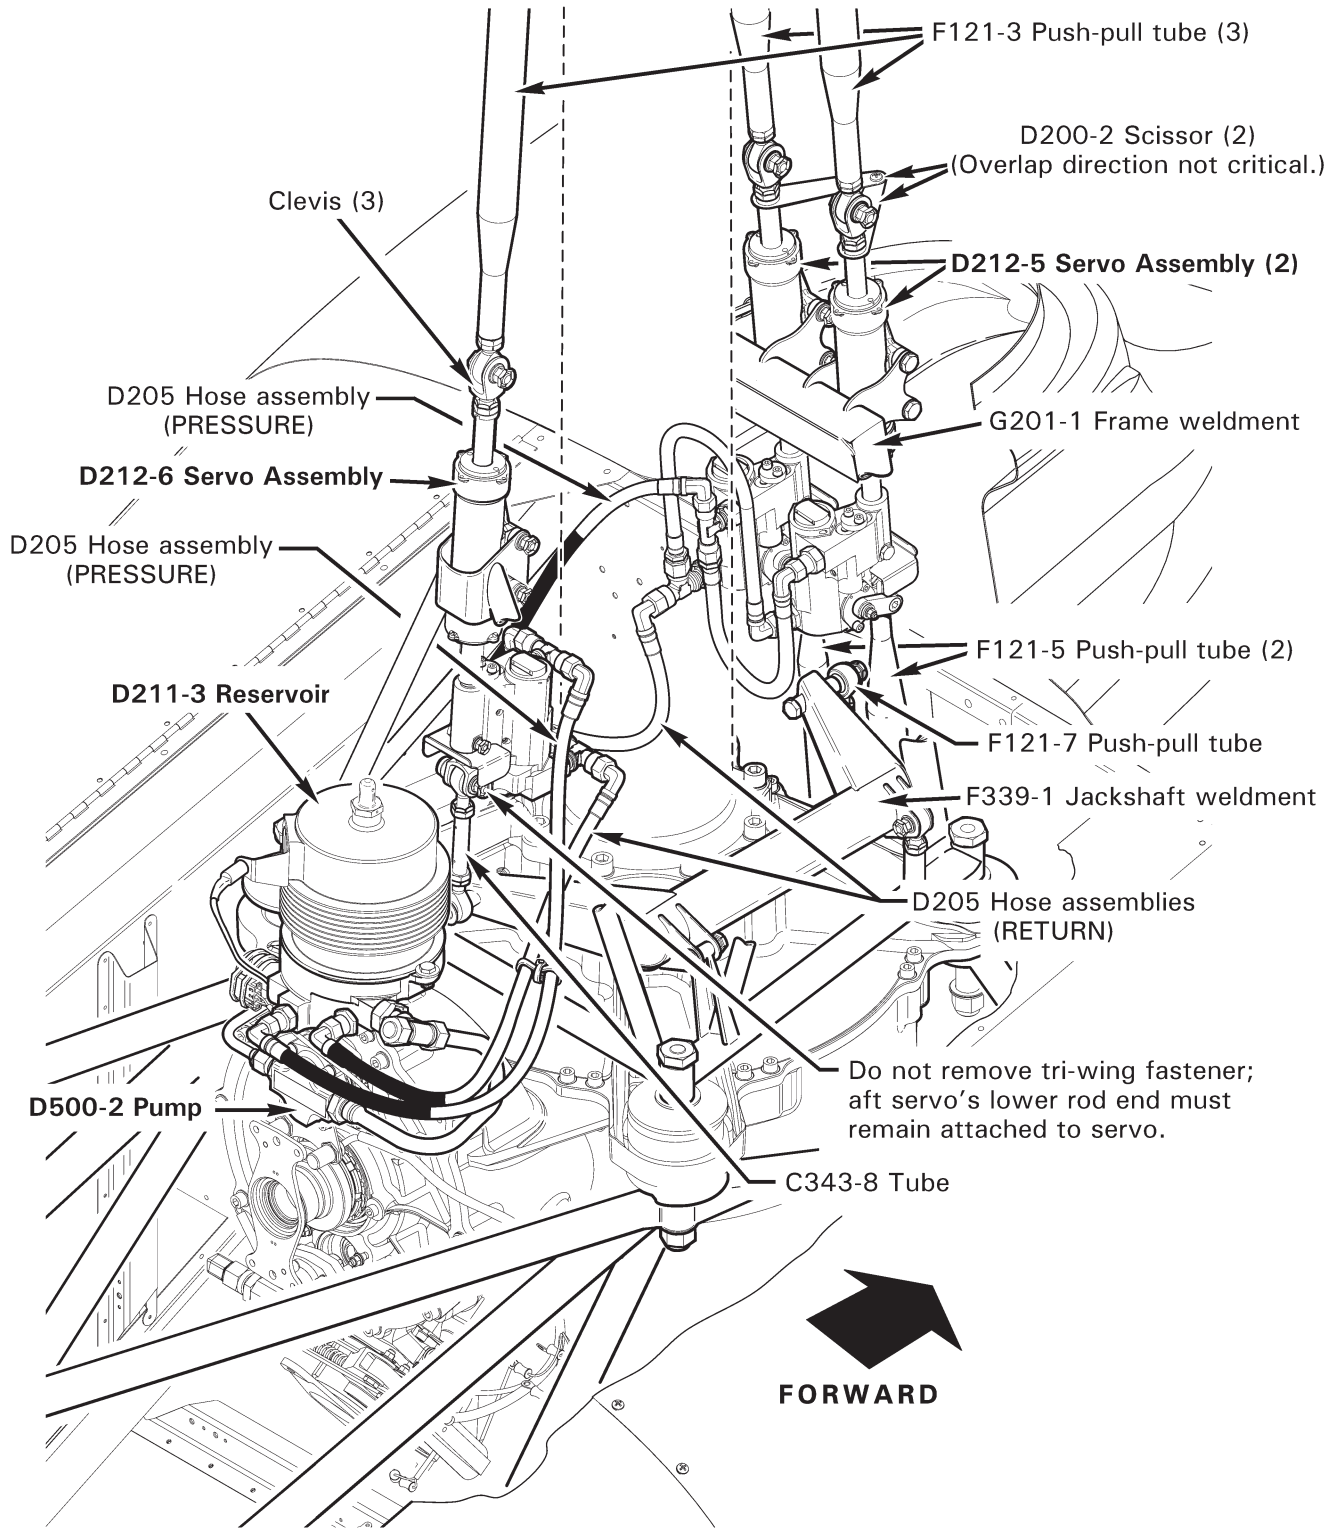

FIGURE 29-1 HYDRAULIC FLIGHT CONTROL SYSTEM
2. Refer to Figures 29-1 and 29-3. Perform the following measurements on all D212 hydraulic servo assemblies to be removed: